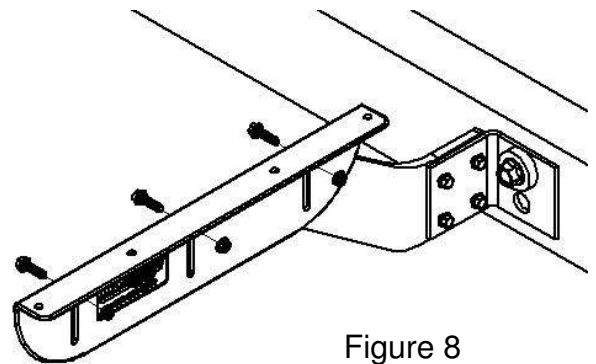

Figure 8
- a. In these cases use the plastic angle (PB5071) to connect the fender to the center bracket assembly (Figure 8).